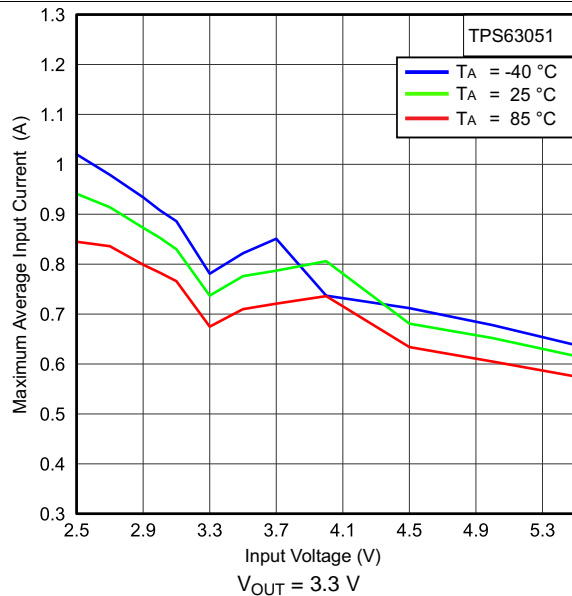
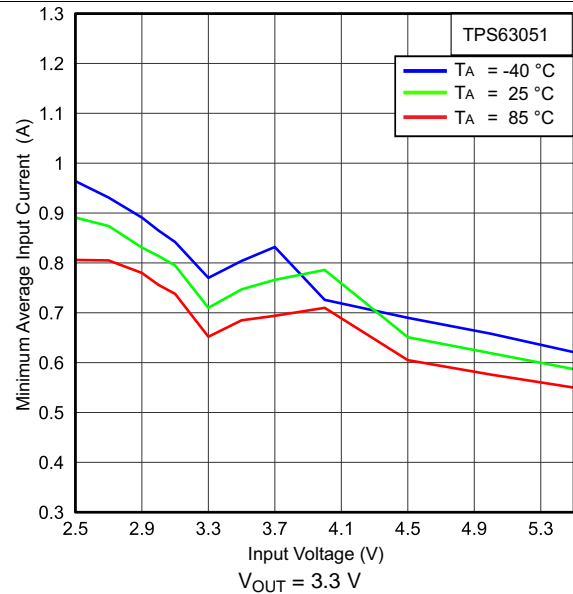

Figure 1. Maximum Average Input Current vs Input Voltage
Figure 2. Minimum Average Input Current vs Input Voltage
(1) For minimum and maximum output current in a specific working point see Figure 1 and Figure 2; and Equation 1 through Equation 4.
(2) Conditions: $T_J = -40^{\circ}\text{C}$ to 85°C
(3) Conditions: $f = 2.5\text{ MHz}$, $L = 1.5\text{ }\mu\text{H}$, $C_{OUT} = 10\text{ }\mu\text{F}$
The TPS6305x devices have an internal user programmable current limit that monitors the input current during start-up. This prevents high inrush current protecting the device and the application. During start-up the input current does not exceed the current limit that is set by I_{LIM0} pin and I_{LIM1} pin. Depending on the logic level applied at these two pins, switching between four different current limit-levels is possible. The variation of those values over input voltage and temperature is shown in Figure 1 through Figure 2. Adjusting the soft-start time further using the soft-start capacitor is possible.
Given the curves provided in Figure 1 through Figure 2, calculating the output current in the different condition in boost mode is possible using Equation 1 and Equation 2 and in buck mode using Equation 3 and Equation 4.
- I_{IN} = Minimum average input current (Figure 2 to Figure 2)